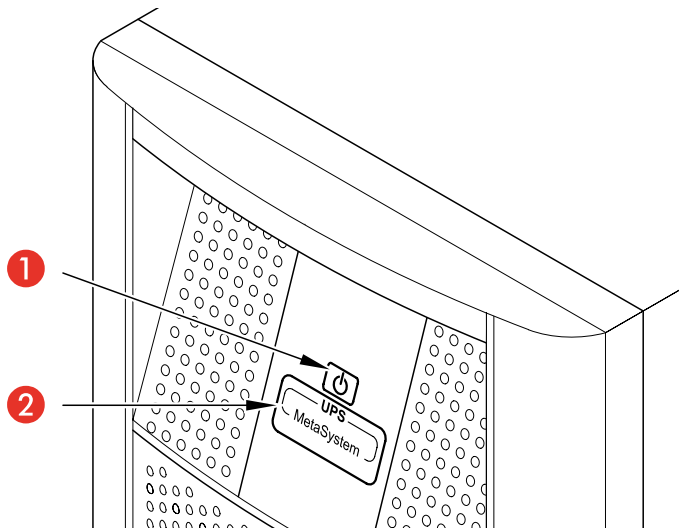

Fig. 2.
- status indicator 2 (see fig. 2)